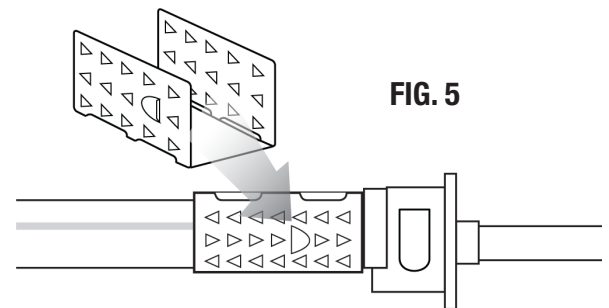

FIG. 5
5. Using metallic serrated joiner, place over cut end and press into place. Serrated points should 'grab into' tape material (**FIG. 5**).